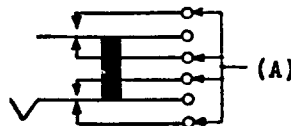

Fig. 9
- (a) **Fig. 9(A) — Normal Contact Sequence Break-Make Combinations:** Normally closed contacts operated directly by a plunger spring of an individual spring assembly shall break before the normally open contacts of the same assembly directly associated with the plunger spring make by — 0.005 inch (Readjust — 0.006 inch).